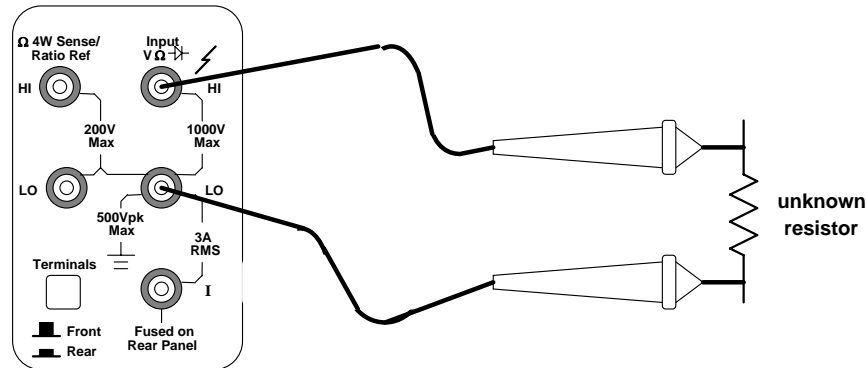

Figure 7. Resistance measurement (two-wire). The probe leads are connected to the rightmost HI and LO terminals on the DMM.
- b. Connect leads (banana to mini-clip style) to the **HI** and **LO** terminals marked **1000 V Max** (see Figure 7). It is best to measure resistance before placing a resistor or component in a circuit (otherwise, you may be measuring the resistance of some parallel combination of elements).